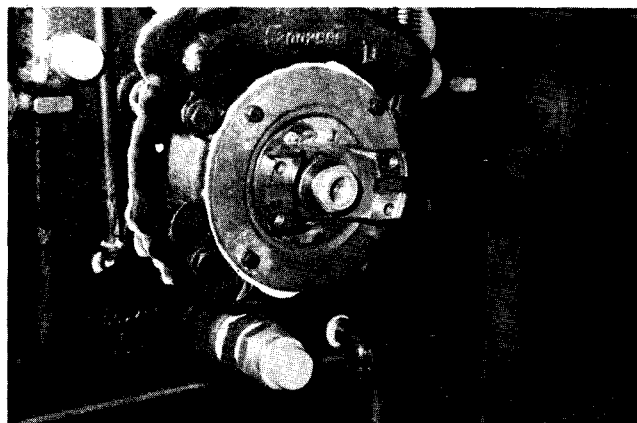

Figure 20
14. Install washer and nut on shaft. Torque to 450 ft. lbs. (Figure 20)